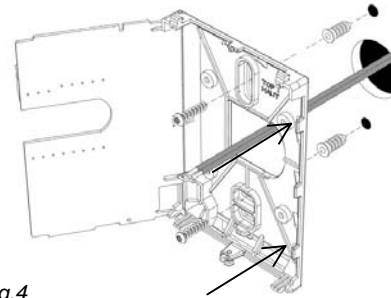

Fig.4
- 1- Swing open the thermostat PCB to the left by pressing the PCB locking tabs. **(Fig. 4)**
- 7- Insert screws in mounting holes on each side of the base. **(Fig. 4)**